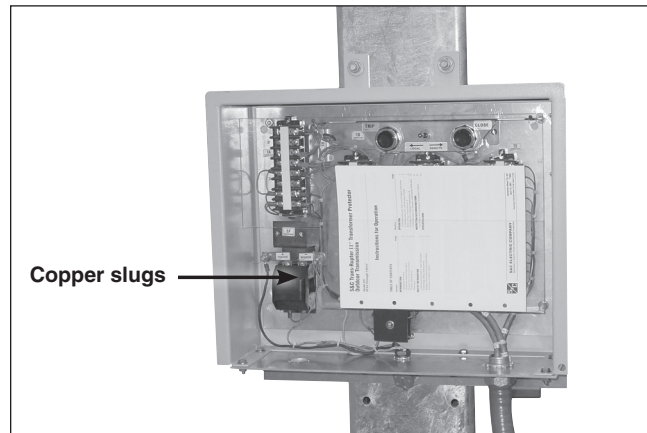

Figure 22. Remove the copper slugs.
STEP 19. Remove the copper slugs from the low-voltage enclosure and set them aside in a protected area. See Figure 22.
STEP 27. Replace the copper slugs in the low-voltage enclosure. See Figure 22.